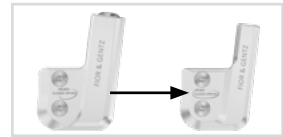

fig. 32
- 3 Mount the functional unit or cover plate of the desired system joint in the correct system width (see example fig. 32).